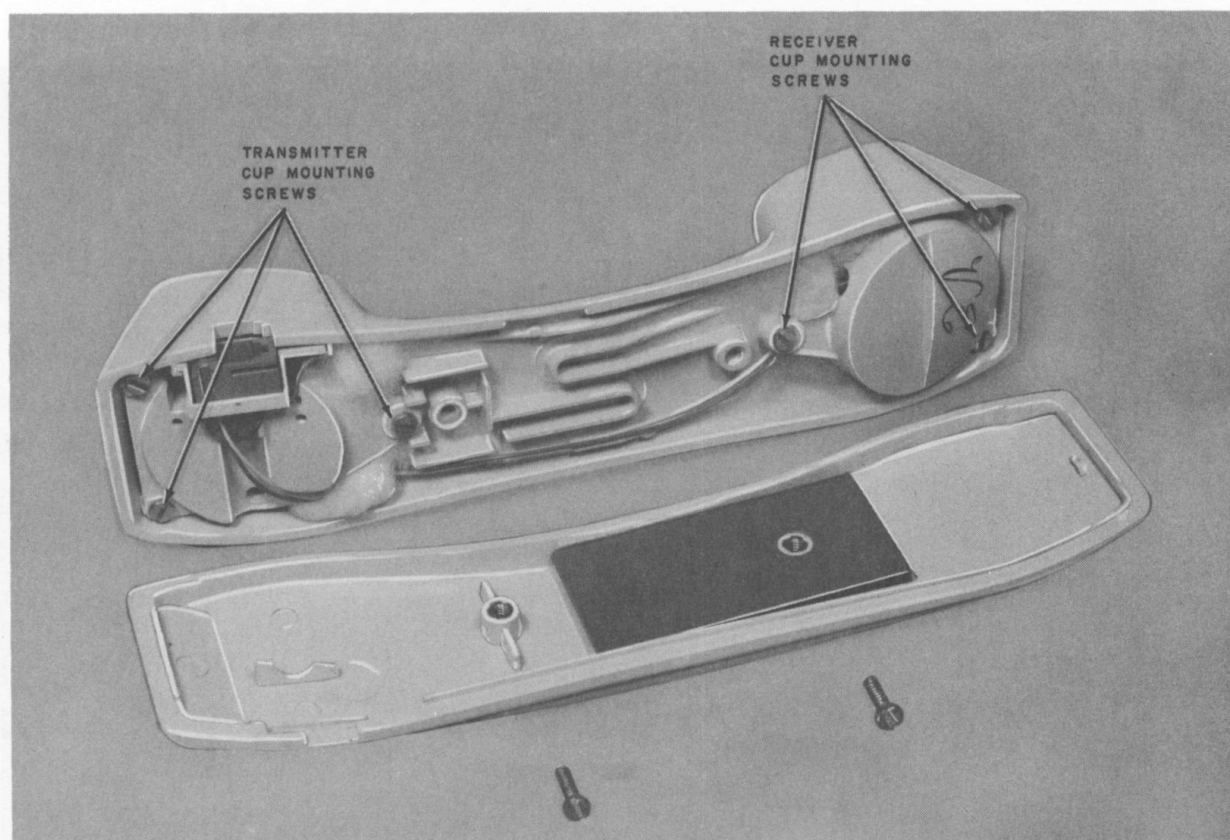

Fig. 10—Removing Transmitter and Receiver Cups From Handset (A Code Sets Only)
- (8) Open handset by removing two screws (Fig. 10) and remove transmitter and receiver cups. Remove T1 transmitter and U3 receiver units (Fig. 11).